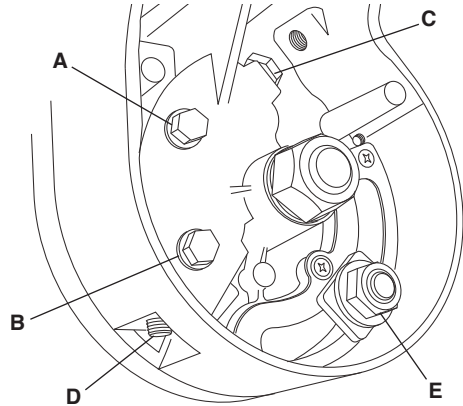

Figure 6. Calibrating Blade at 0 degrees (90° to the table)
2. Loosen bolt heads "A" and "B" with 10 mm open-end wrench at least one full turn (Figure 6).
3. Place 4 mm Allen wrench bit onto multi purpose tool and into setscrew "D" (Figure 6).
2. Place 17-mm open-end flat wrench on bolt head "E" (Figure 6).